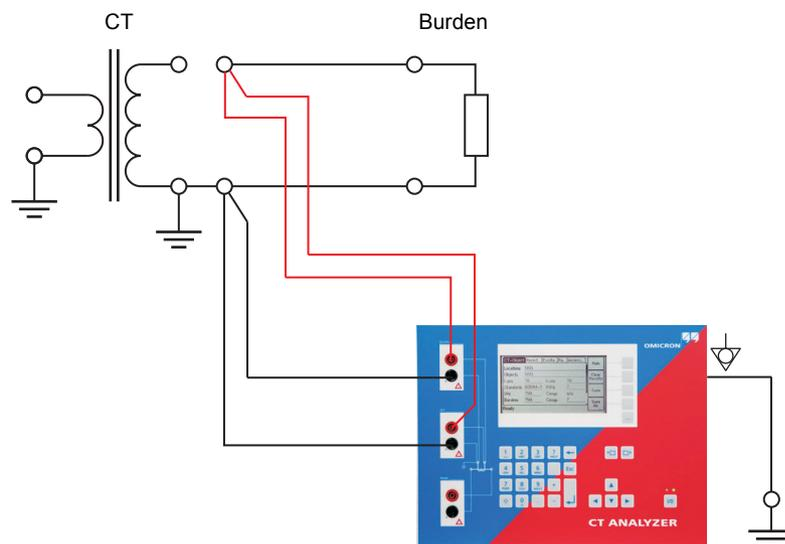

Figure 2-3 Basic wiring for a burden test
For a burden test, connect the *CT Analyzer* as shown in Figure 2-3. Observe the general safety rules in section 2.1 on page 21.
1. Open the connection line to the ungrounded side of the CT (refer to Figure 2-3).